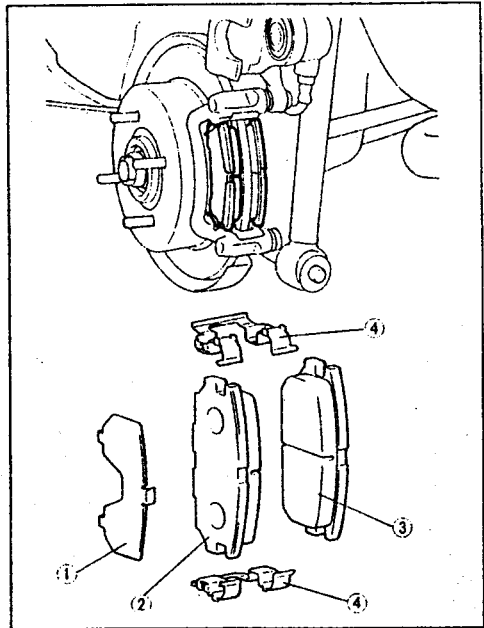

Fig. 13.10. — Details for the removal and installation of the rear brake pads. The wear indicator is fitted to brake pad (3).
The rear caliper brake pads are also connected to the wear-indicator system and the squealing noise (this time at the rear) will point out to you that the brake pads have worn beyond their limit. As in the case of the front calipers, it is possible to check the thickness of the remaining material of the brake pads without removing the caliper. An inspection opening in the caliper, similar as shown in Fig. 13.2 enables the check after removal of the wheels. If it is estimated that the material thickness is less than 2.0 mm, replace the pads. Refer to Fig. 13.10 for details. You will find that rear brake pads last longer than anticipated.
- Remove the outer shim (1) in Fig. 13.10 and the brake pad next to it. Remove the pad clips (4) and take out the second brake pad. One of the brake pads (3) has the wear indicator fitted. Make a note where it comes from. Brake pads must be removed on both sides of the vehicle. Make a note how the pads are installed to facilitate the refitting.
- Fit brake pads, the pad clips and the outer shim in accordance with Fig. 13.10, making sure that the brake pad with the wear indicator is fitted to the inside.